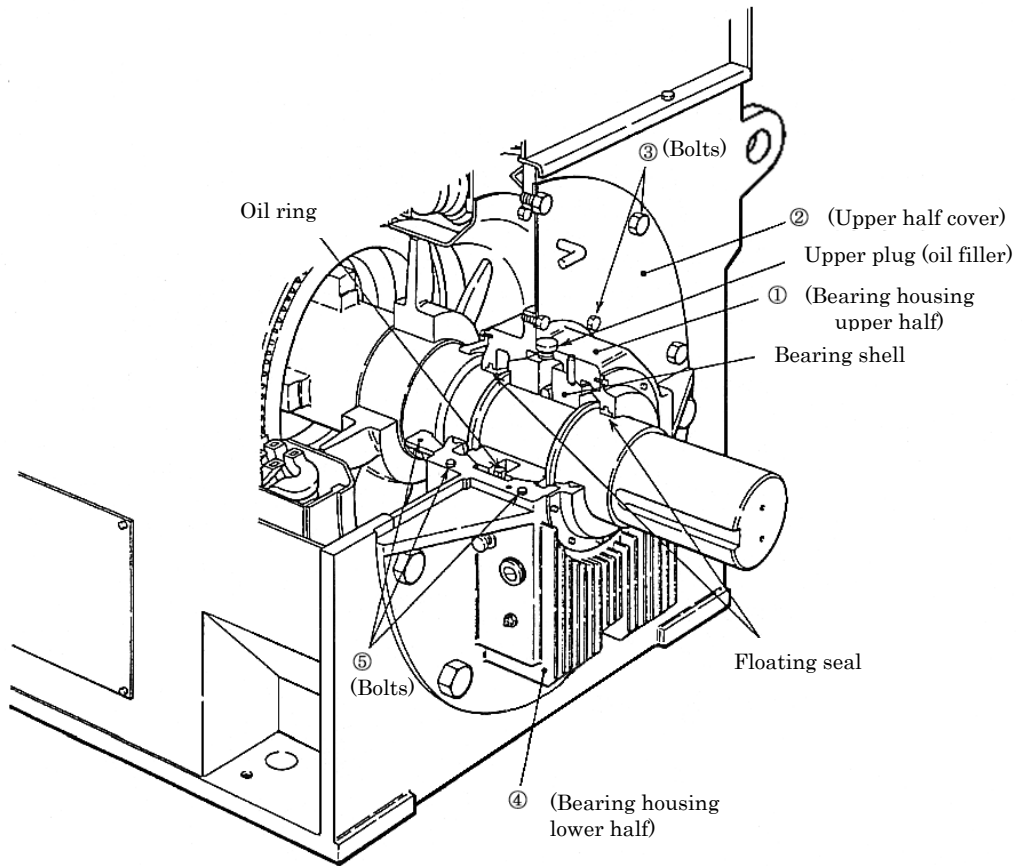

Fig. 13-1
- (1) Removing accessories
- (2) Removing bearing housing upper half (see Fig. 13-1, 13-2)
- a) Remove clamping bolts ③ for bearing housing upper half ① and bearing upper half cover ②, and take off upper half cover ②.
- b) Remove clamping bolts ⑤ for bearing housing upper half ① and bearing housing lower half ④.
- c) Lift the bearing housing upper half ① carefully and slowly, taking care to avoid fouling other components, and remove it. Especially, to prevent damage to the floating seals during disassembly, when lifting the bearing housing upper half ①, keep the bottom surface horizontal at all times. Since the non-drive end side bearing is normally provided with an insulator to prevent shaft current, pay attention to it during disassembly and reassembly. In addition, take care to keep this area free from contamination by foreign matter that may allow current at all times.